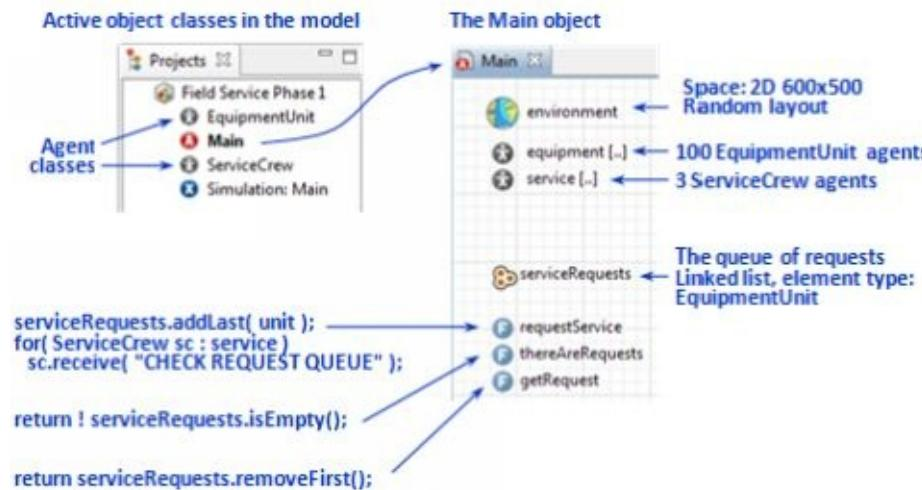

Figure 4.13 The structure and the top level of AnyLogic Field service model
Mapping our design to the AnyLogic modeling language is straightforward. Equipment unit and service crew become agent classes *EquipmentUnit* and *ServiceCrew*, and all global things (space and request queue management) will be defined within *Main* – the top level object of the model. 100 equipment units (100 instances of *EquipmentUnit* class) and 3 service crews (just for example's sake) will be embedded into *Main*. Space and layout settings are defined in the *Environment* object, also in *Main*. *Main* will look like Figure 4.13.
- *Failure* – here we need to place a service request. This is done through the `Main` object by calling its function `requestService()`. The `Main` object is the direct container of the `EquipmentUnit` agent (see Figure 4.13), and there is a function `get_Main()` in the equipment unit that returns the `Main` object. The action of the *Failure* transition, therefore, is `get_Main().requestService(this);`. "this" is a reference to "self": the equipment unit provides it as an argument in the function call to identify who requests the service. That reference will then be placed in the request queue in `Main`.
`send()` is the function of the agent that sends a message to another agent. (Compare this to the call of *receive()* function in *Main*, see Figure 4.13. *Main* is not an agent, so for *Main* that was the only way of delivering a message.) The message is *this* – a reference to service crew itself.